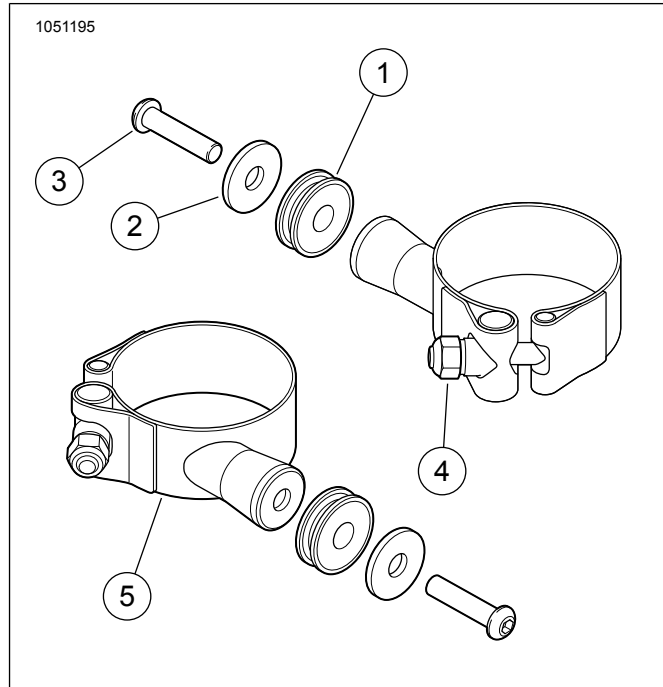
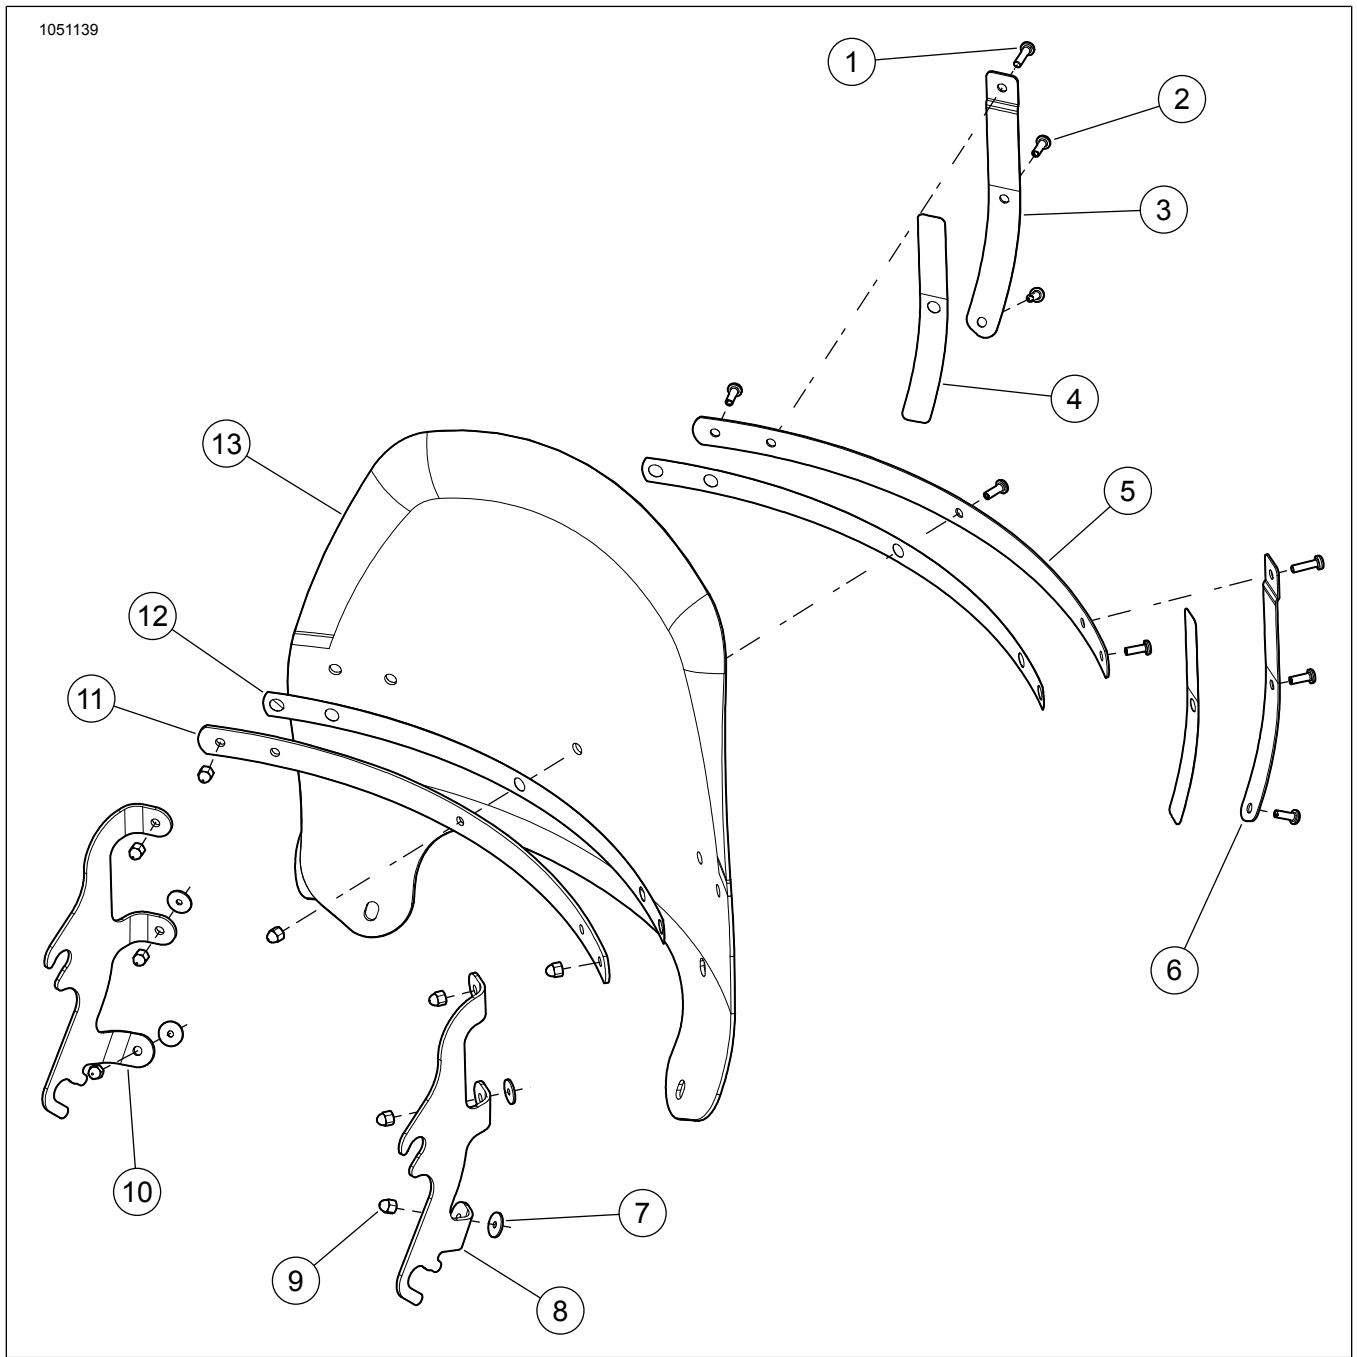

Figure 1. Clamp Assembly
Figure 2. Windshield Assembly
Figure 1 and Table 1, Figure 2 and Table 2.
2. See Figure 1. Assemble mounting hardware for windshield mounting. Assemble in the following order, and leave assembly loose:
- b. Place flat washer (2) and bushing (1) on bolt (3) and install on clamp (5). Tighten.
- c. Install clamp assembly onto the fork tube with the clamp nut (4) rearward toward the rider.
5. Tighten mounting clamp hardware screw (3).